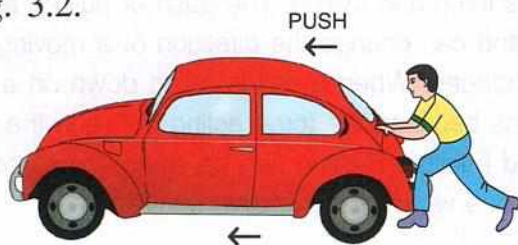
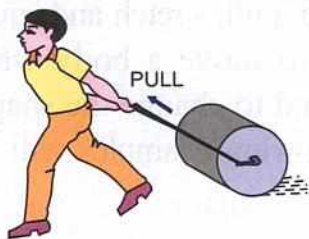

Fig. 3.2 Force as push to move a car
Fig. 3.3 Force as pull by the gardener to move the roller
5. If a car does not start by its engine, we have to push it to move as shown in Fig. 3.2.
1. To move a grass roller on a lawn, it is pulled by a gardener (Fig. 3.3).
1. A force can move a body originally at rest : When a force is applied on a body originally at rest, the body begins to move. *For example*, a car originally at rest when pushed, begins to move (Fig. 3.2). A grass roller when pulled begins to move (Fig. 3.3). A ball lying on the ground moves, when it is kicked.
If one end of a spring is tied to a hook and the other end is pulled down by suspending a body, its length increases (*i.e.* the size of spring changes) as shown in Fig. 3.3.